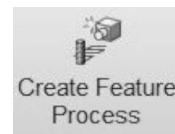
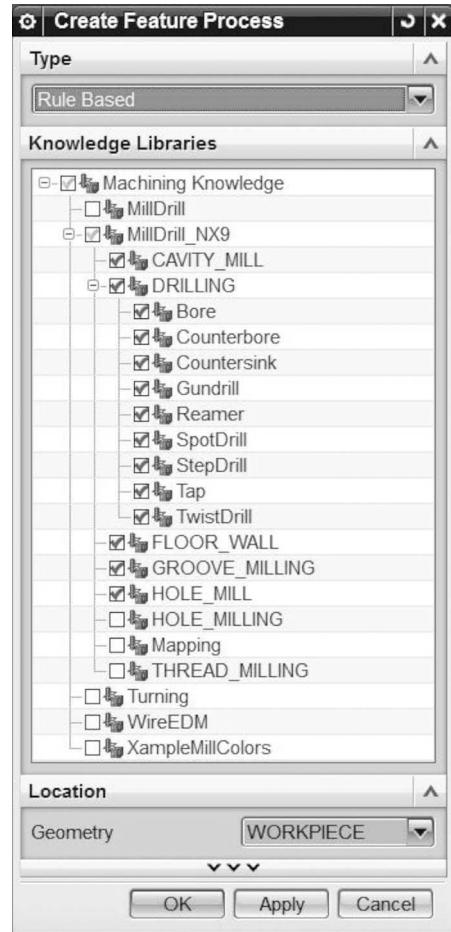

Figure 6-13 Create Feature Process Icon
Figure 6-14 Create Feature Process Dialog
- F. First individually select SURFACE_PLANAR_RECTANGULAR_34 from the list and press the Create Feature Process icon from the Ribbon Bar, as shown in Figure 6-13.
Select Rule-Based from the drop-down options in the Create Feature Process dialog box (Figure 6-14). The Type selected will automatically create the machining operations needed for the features (e.g., milling, drilling, and tapping), based on best practices established in the MKL. Use MillDrill_NX9 and select/deselect any of those from the Knowledge Libraries list as appropriate. Press OK. Processing may take a few minutes depending on how many or how complex the features are that you have selected. A progress bar will be present in the Cue/Status Line.
Press the Create Feature Process icon from the Ribbon Bar, as shown in Figure 6-13. Use the same settings shown in Figure 6-14 in the Create Feature Process dialog box.